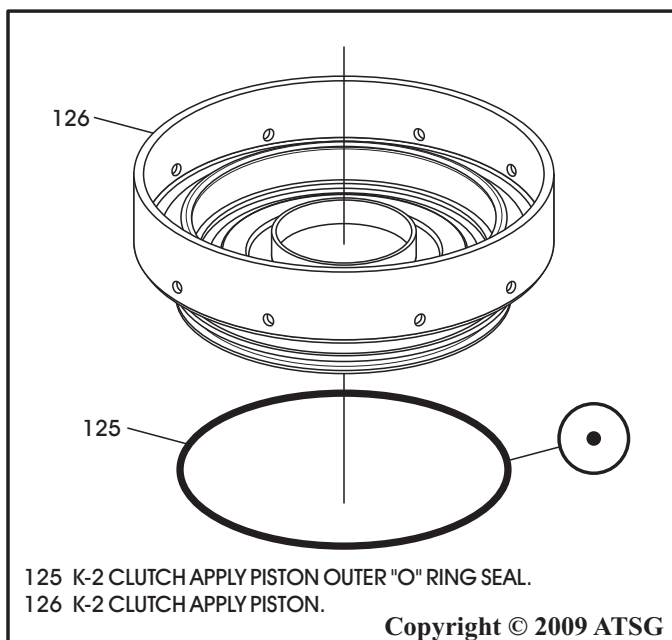

Figure 103
9. Install new "O" ring seal onto the K-2 clutch apply piston, as shown in Figure 103, and lube with small amount of Trans-Jel®.